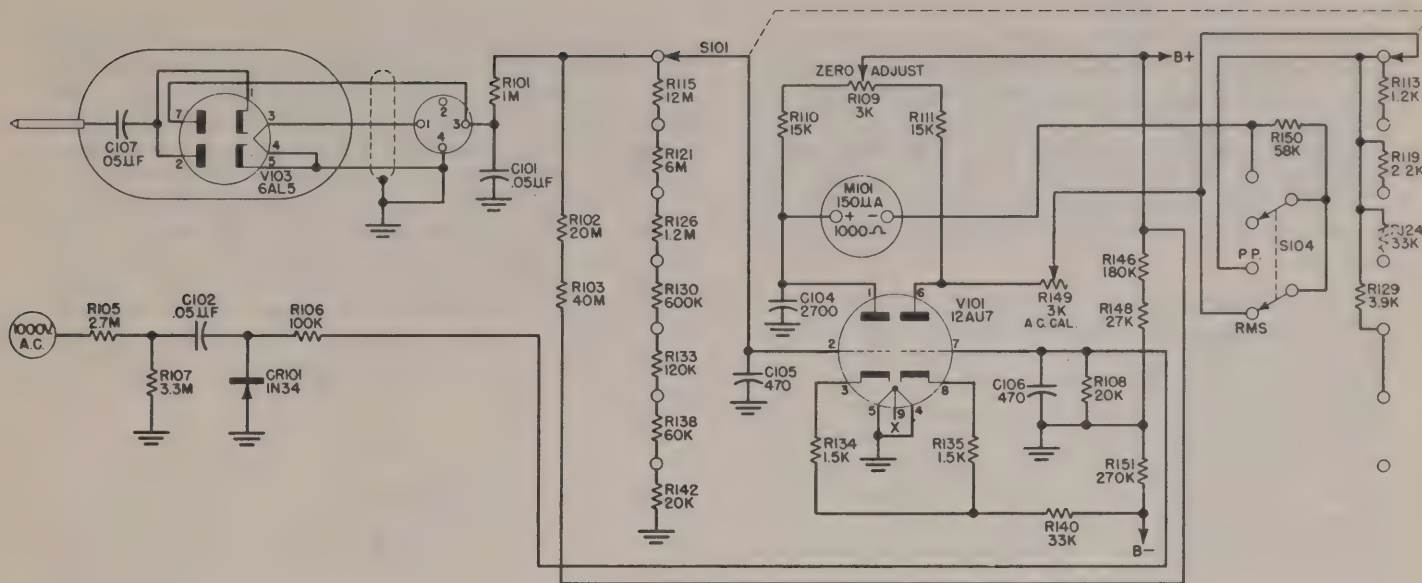

Figure 2-4. AC Voltmeter Circuit
c. AC VOLTMETER CIRCUIT. (See Fig. 2-4)
With reference to Figure 2-4, there are two inputs for AC voltage measurements, one through the voltage doubling probe circuit utilizing a type 6AL5 tube, V103, which serves for measurements up to 250 volts throughout a frequency range of approximately 20 cycles to over 100 mc. In the case of the input to the 1000 volt range, the frequency limits are from 50 to 3000 cycles approximately. At 12,000 cycles the error is approximately 5%.